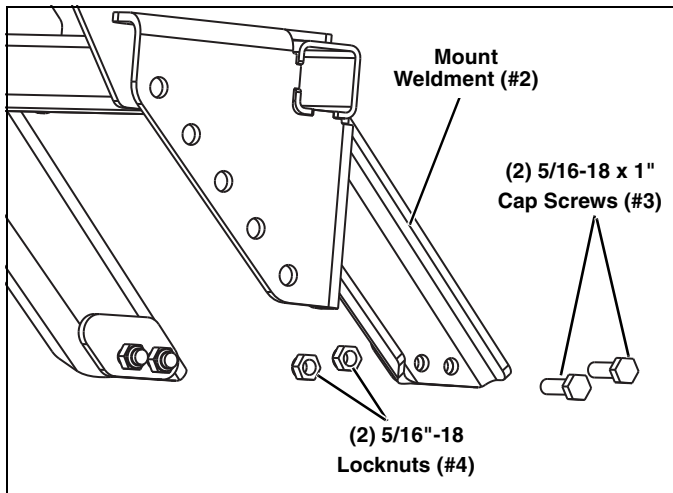

Figure 8
10. Secure the Mount Weldment (#2) to the lower frame rail with (2) 5/16"-18 x 1" Cap Screws (#3) and (2) 5/16"-18 Locknuts (#4). (See Figure 8.)